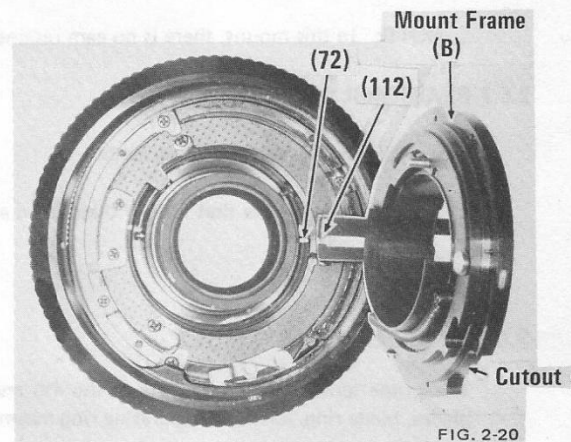

FIG. 2-20
With aperture ring set to EE position and locked, set mount frame (B) assembly into position so that fork (112) on diaphragm lever engages diaphragm actuating arm (51) and cutout passes over tab on diaphragm ring. Fig. 2-20.